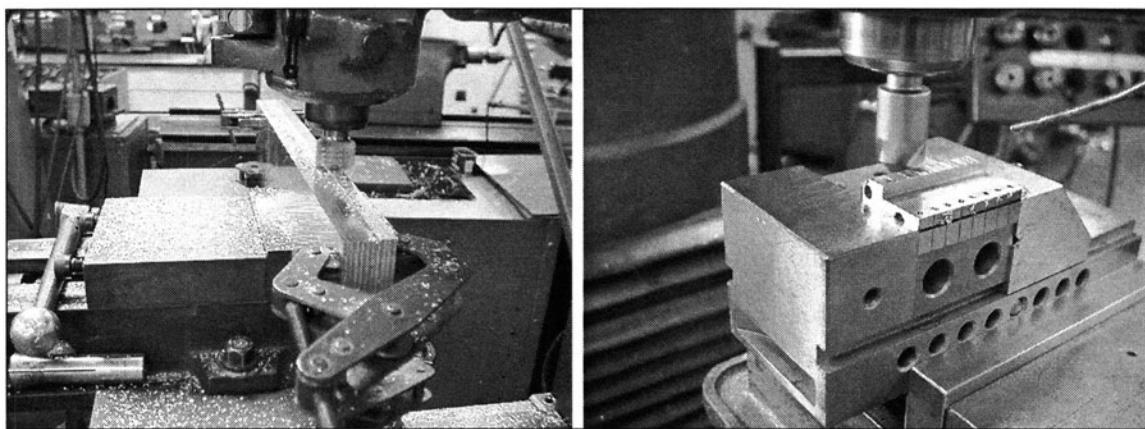

FIGURE 1-9 Stack milling is an effective way to save time. The trade-off is that setups take more time and tolerances are usually more difficult to hold.
26. *Stack parts when you can. (See Fig. 1-9)*